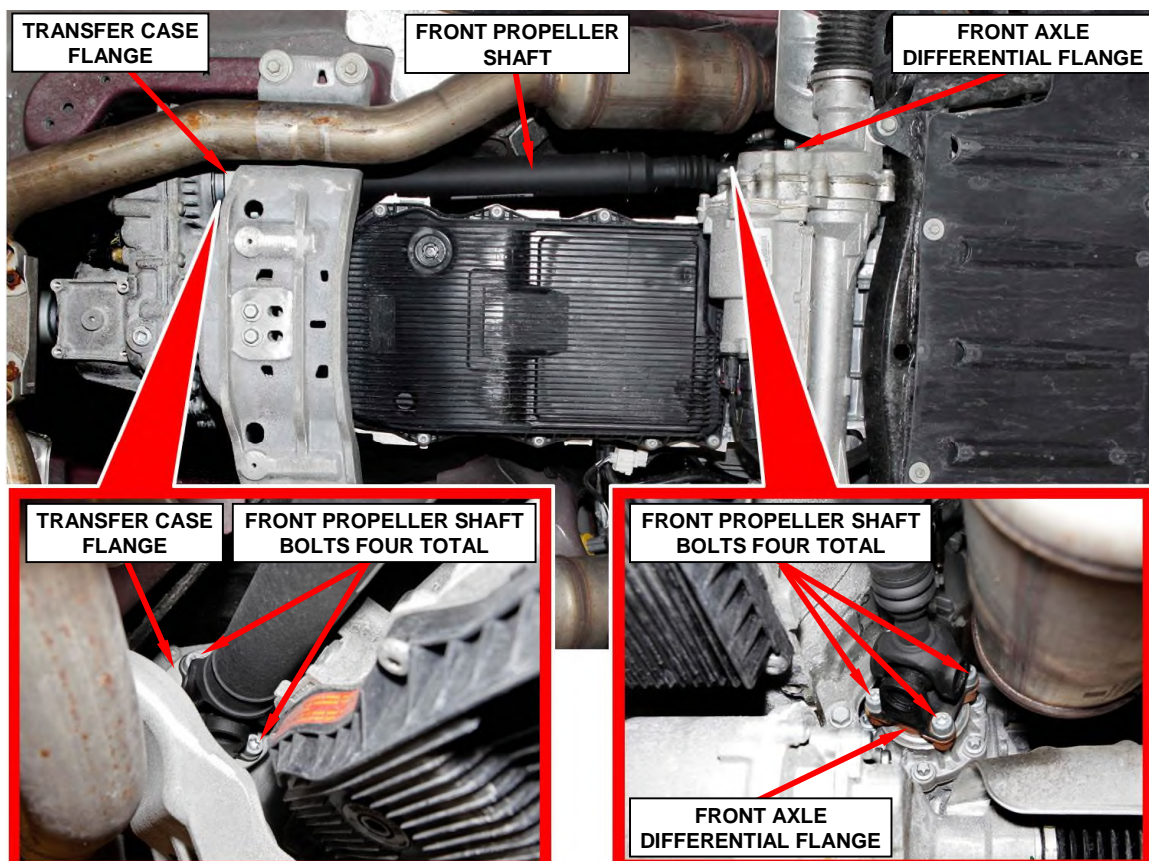

Figure 1 – Front Propeller Shaft Bolts at Front Axle Differential and Transfer Case
2. Repeat the following bolt replacement steps for each of the eight bolts securing the front propeller shaft to the front axle differential flange and the transfer case flange (Figure 1).
- a. Remove and discard one bolt securing the front propeller shaft (Figure 1).
- b. Install a NEW bolt securing the front propeller shaft and tighten the bolt to 61 N·m (45 ft. lbs.) (Figure 1).
3. Repeat **Step 2** until all eight bolts securing the front propeller shaft to the front axle differential flange and the transfer case flange have been replaced (Figure 1).